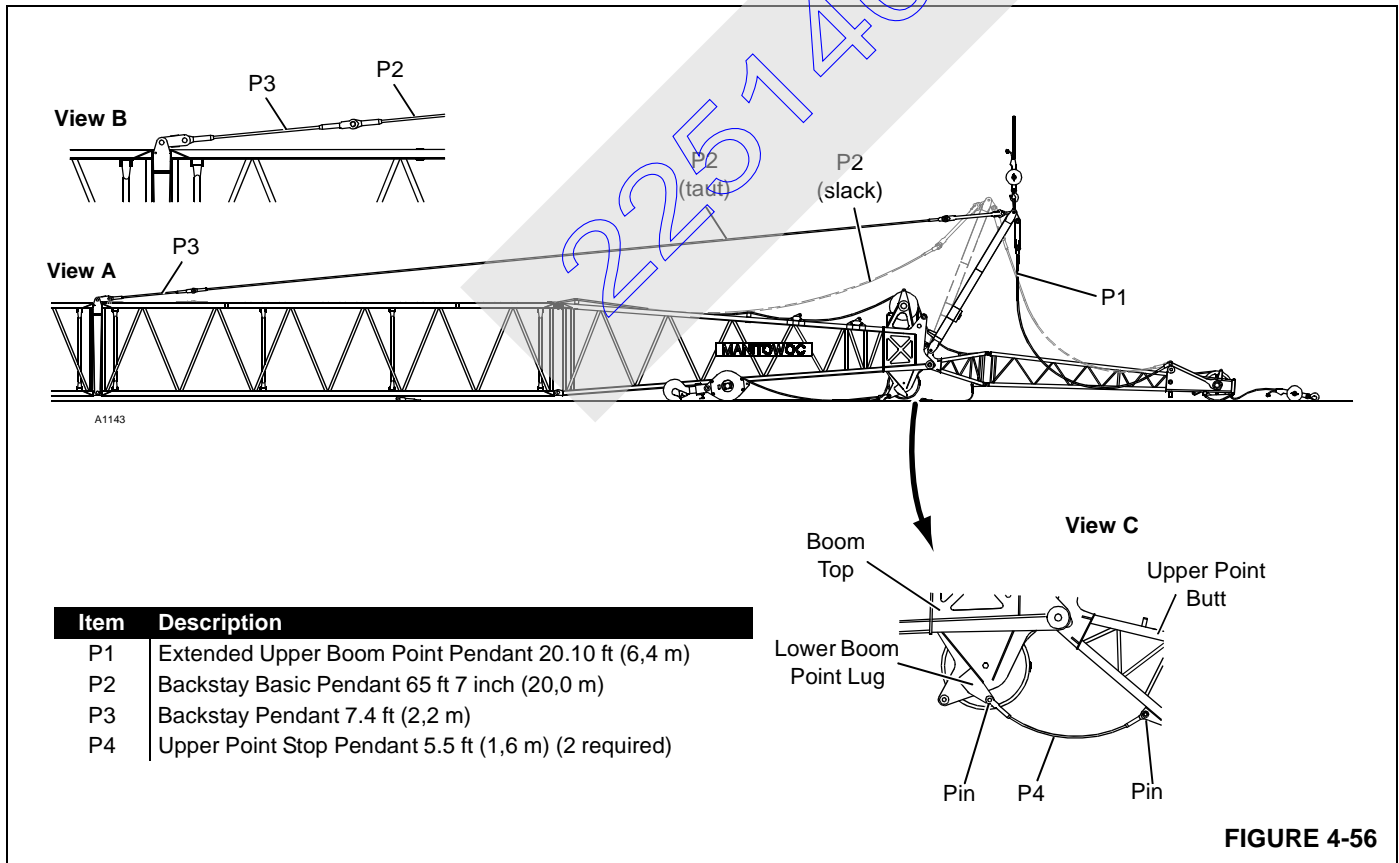

FIGURE 4-56
See Figure 4-56 for following procedure.
2. Pin pendants P4 to lugs on upper point and lower boom point (Figure 4-56, View C).
4. Disconnect upper point stop pendants from lower boom point lugs (Figure 4-56, View C).
1. Using appropriate slings, attach hook from assist crane to top of extended boom point strut (Figure 4-56, View A).
2. Slowly bring strut back assist crane until backstay pendants P2 are slack and can be unpinning from pendants P3 (Figure 4-56, View A).